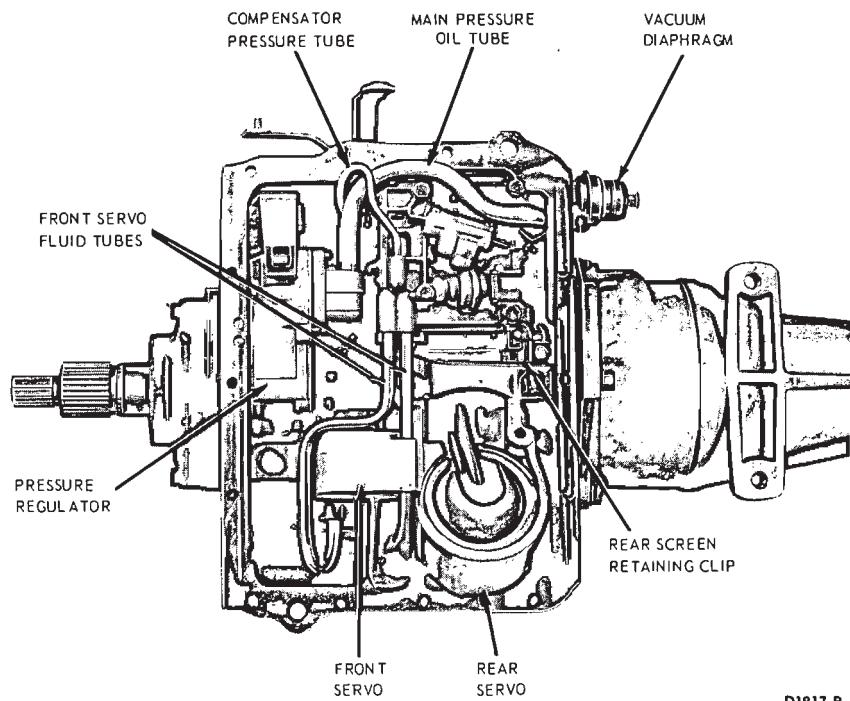

FIG. 18—Typical Hydraulic Control System
5. Remove the small compensator pressure tube (Fig. 18).
13. Torque the attaching bolts to specification. Be sure that the rear fluid filter retaining clip is installed under the valve body bolt as shown in Figure 18.
2. Remove the small compensator pressure tube from the control valve body and the pressure regulator (Fig. 18).
3. Remove the main pressure oil tube by gently prying up the end that connects to the main control valve assembly first. Then remove the other end of the tube from the pressure regulator (Fig. 18). Be sure to remove the tube in this manner. Failure to do so, could kink or bend the tube causing excessive transmission internal leakage.
4. Remove the attaching bolts from the front servo (Fig. 18), hold the strut with the fingers, and remove the servo.